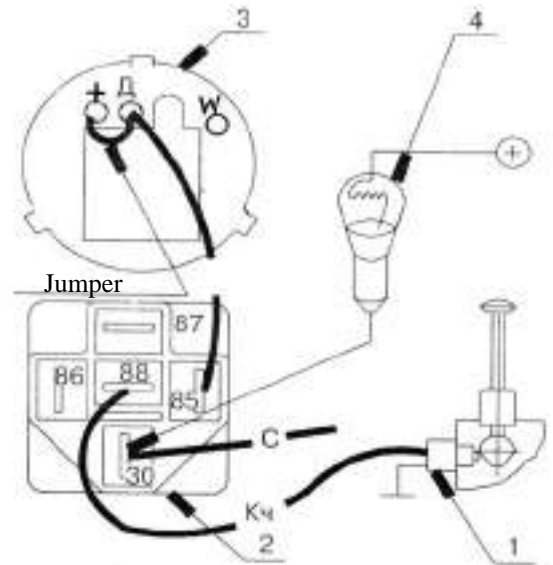

Fig. 13. Checking the operability of the interlock relay K6:
d) Check the operability of the interlock relay (K2) (Fig. 13):